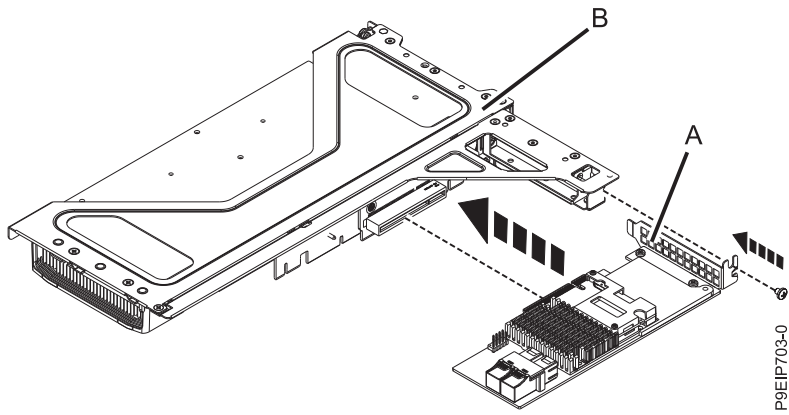

Figure 60. Inserting an adapter into position 4 of the riser
- f. Insert the adapter (A) into the riser (B) as shown in Figure 60 on page 99, aligning it properly and inserting it fully into the slot. Secure the adapter tail-stock with 1 or 2 screws as needed.